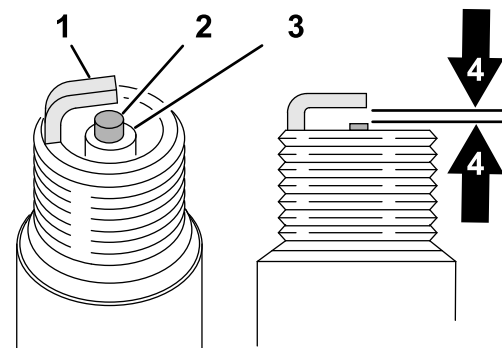

**Figure 35**
- Clean the area around the spark plugs (Figure 35).
- Disconnect the spark-plug wires from the spark plugs (Figure 35).